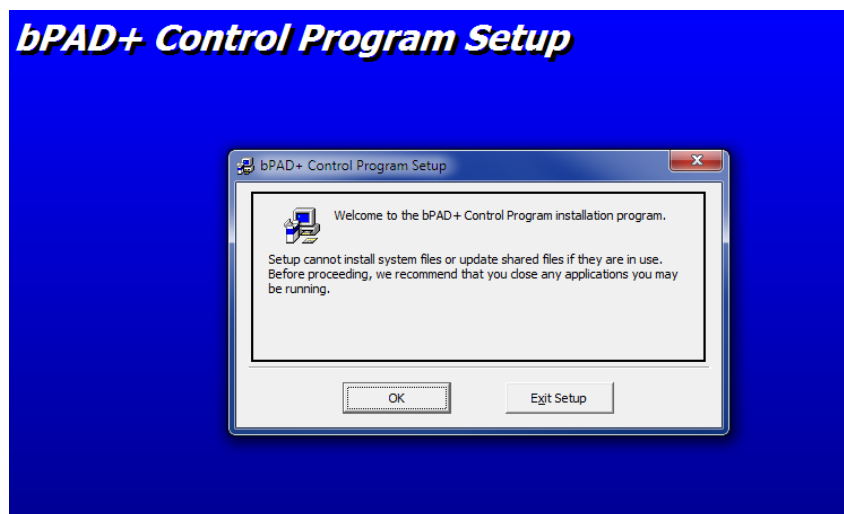

Fig. 3 – bPAD Control Program Setup screen
1. Go to the bPADCP distribution directory and run the “Setup.exe” program. When the main setup screen appears (Fig. 3), click on the “OK” button.